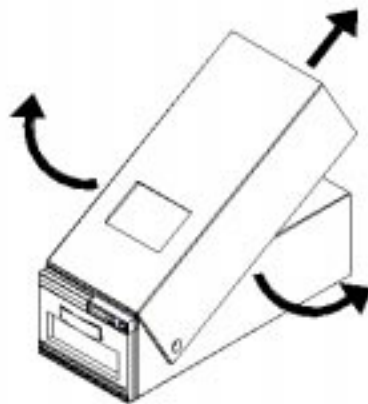

FIGURE 4-2 Removing the Cover
- b. **Remove the cover by pulling the sides slightly out and lifting the cover up and towards the back of the unit (FIGURE 4-2 on page 4-3).**